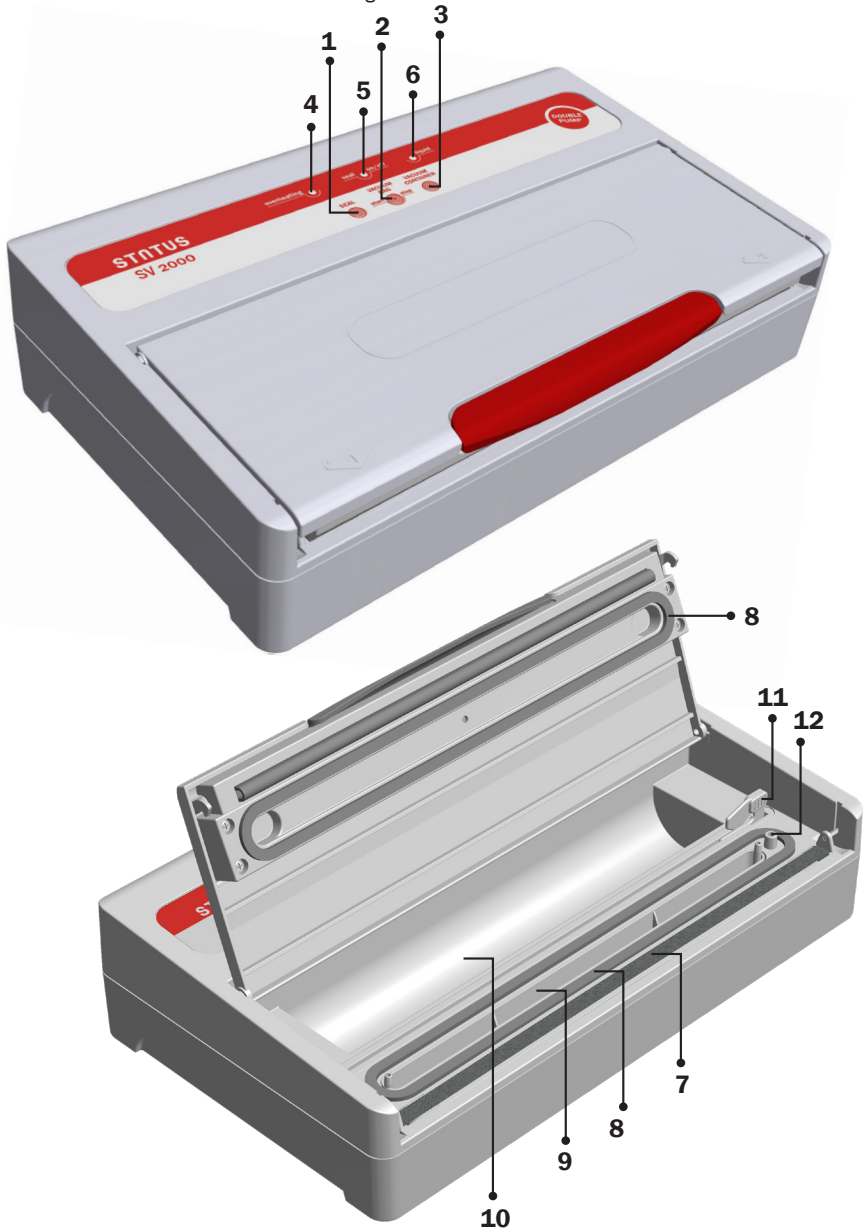

Figure 1: STATUS SV2000 – components are marked with numbers.
- d.) Never touch the Sealing Strip when using the machine (*Item 7 in Figure 1*) – it may be hot.
When the cycles follow each other too quickly, the machine automatically stops. The *Overheating indicator* is lit (Item 4 in Figure 1).
The Figure 1 below shows the vacuum packing machine. The numbers in explanations of the operation of the machine are used in the same manner as in the Figure.
Check if the *On / Off Indicator* is lit (*Item 5 in Figure 1*). Each time before you begin to vacuum pack, first dry test the machine.
- b.) Press the **Vacuum Packing of Bags** button (*Item 2 in Figure 1*). Wait for the *On / Off Indicator* to stop illuminating intensely.
- e.) Press the **Seal** button (*Item 1 in Figure 1*). During sealing, the light (*On/Off*) will be blinking. **RECOMMENDATION:** If the machine does not start with the sealing process right after you press the **Seal** button, then press gently on the middle of the lid with your finger.
TIP: You can seal the foil first and then cut it off with the included cutter. Set the foil roll into the space provided for it (Item 10 in Figure 1). Pull the foil over the Sealing Strip (Item 7 in Figure 1) and lower the lid. Lock with pressing on the marked arrows on the lid and then on the **Seal** button.
- Close the machine and lock it with pressing on both arrows on the rims of the lid until you hear a click. Press the **Vacuum Packing of Bags** button (Item 2 in Figure 1). **RECOMMENDATION:** If the machine does not start with the process right after you press the **Vacuum Packing of Bags** button, then press gently on the middle of the lid with your finger.
button (Item 2 in Figure 1). You can press the Stop button only while the machine is vacuum packing (the button no longer works when the machine is sealing). If you haven't stopped the process of vacuum packing in time and liquid had entered the Vacuum Channel, the machine will stop automatically. The *Liquid block* indicator will be lit.
- Always place the bag so that you set the edge of the bag between the gaskets in the Vacuum Channel (Item 9 in Figure 1).
- When you assess that enough air has been removed (pay attention to what is happening with the food, if liquid is starting to slip toward the machine or if further removing of air could damage soft foods), press the **Stop** button (Item 2 in Figure 1). The pump is stopped and sealing is activated.
- c.) Press **Vacuum Packing of Container** button (Item 3 in Figure 1) to vacuum the container. When the correct negative pressure is reached, the process stops automatically.